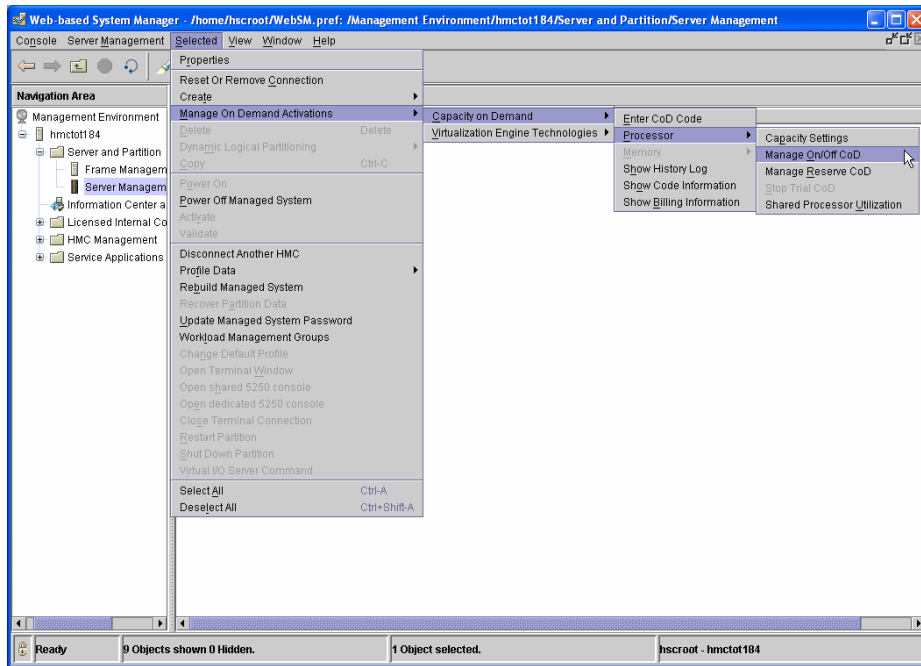

Figure 8 Activating the On/Off CoD
- ▶ Activating On/Off CoD using the graphical interface. From the Server Management window, highlight the managed system. Click on **Selected** → **Manage on Demand Activations** → **Capacity on Demand** (see Figure 8 on page 17).